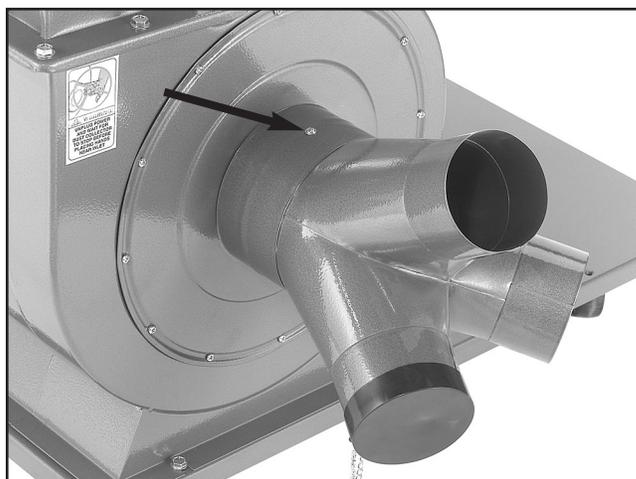

Figure 20. Installed inlet.
- Secure the inlet in place with the Phillips head tap screw, (**Figure 20**).